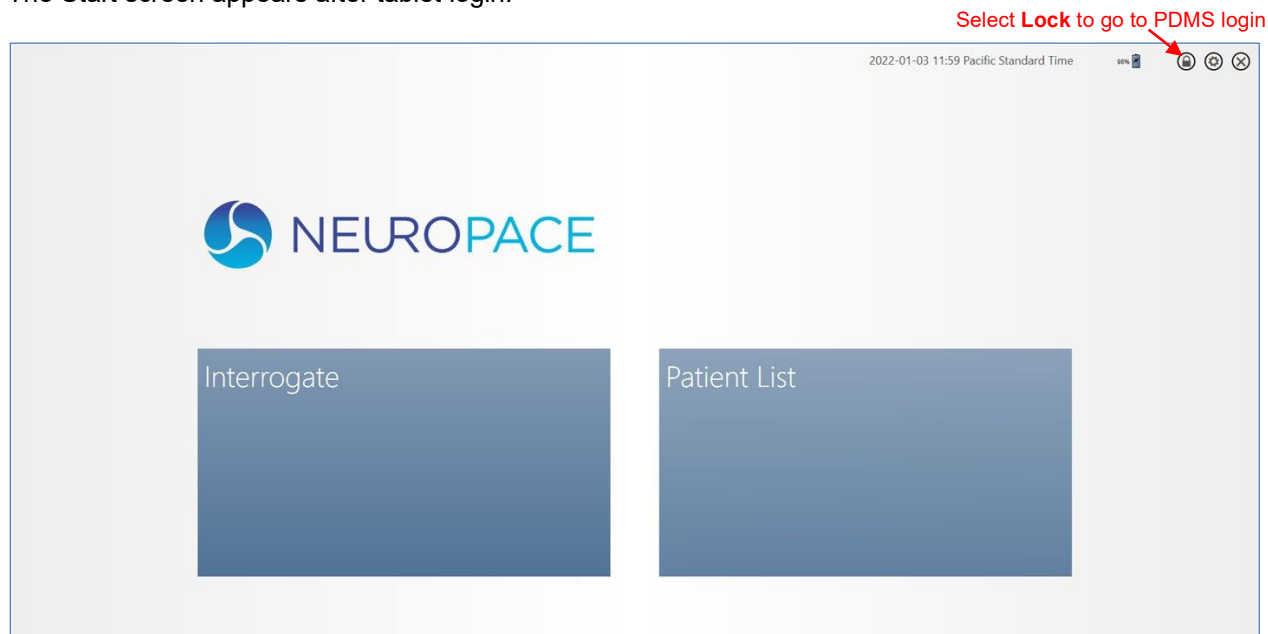

Figure 5 Start screen
2. Place the wand within approximately 1 inch of the neurostimulator, concave side of wand facing the neurostimulator. Then select **INTERROGATE** from the Start screen (left tile—see **Figure 5**). You can also select the green **INTERROGATE** tile at upper right in the **HOME** screen (see **Figure 9**.) The wand must be held in place over the neurostimulator for interrogation to succeed.